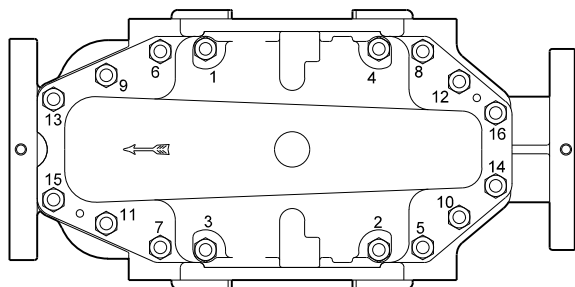

Fig. 4 Tightening order in principle for screws pos. 26c
4. Fit the screws (26c, 26d), and tighten them, but leave loose, in the order shown in fig. 4.
5. Tighten the screws (26c, 26d) to the correct torque. See section 2.3.1 *Tightening torques*. The tightening order is shown in fig. 4.